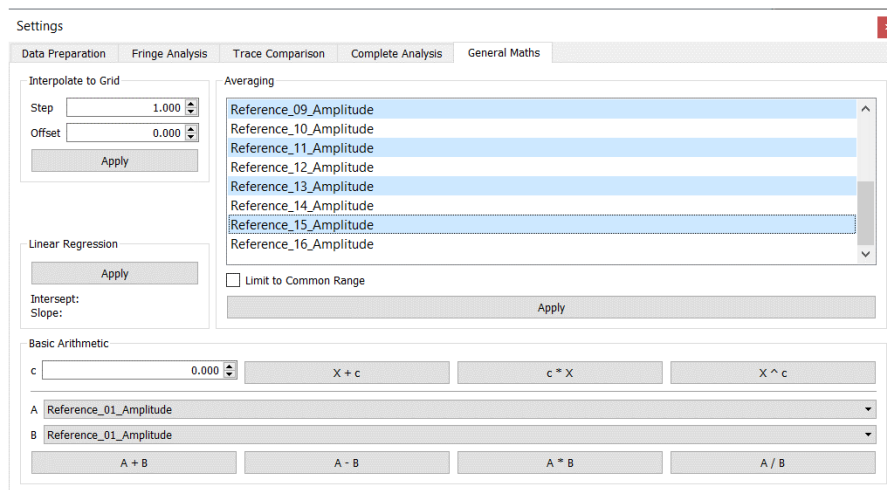

Fig. 17: Trace averaging. In the example, the “uneven” amplitude files are selected for averaging.
3. Open the General Maths tab in the Settings + Analysis Window (Fig. 17). Select the “reference” files that you wish to average, then click the **Apply** button beneath the selection window.
A useful feature in this context is the information displayed in “Statistics for selected Data Set” in the bottom-right corner of the Data Selection Window (Fig. 20). In the example of the one-hundred percent lines shown in Fig. 17, the standard deviation (StdDev) is 1.9% for the unaveraged ratio, and 0.005% for the averaged ratio, roughly consistent with an improvement proportional to the square root of the number of averages.